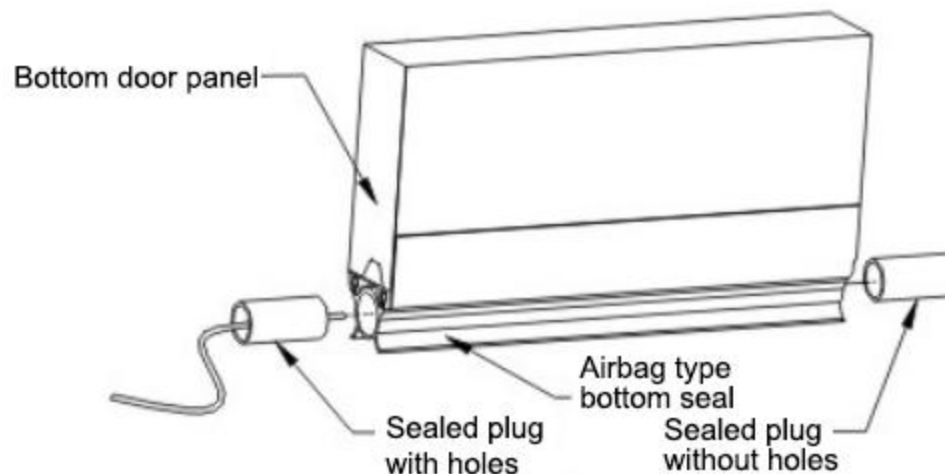

Figure 15-1
15.1 Insert the sealing plug with holes and the sealing plug without holes into the holes at both ends of the bottom air bag type seal. Note that the sealing plug with holes should be installed on the side where the controller is installed; the sealing plugs at both ends should not exceed the end of the door panel, and the error should be <3mm (Figure 15-1)
15.2 Install the pressure wave switch and the airbag bracket on the side of the controller under the adjustable hinge at the end of the bottom door panel with self-tapping screws) (Figure 15-1)
15.3 Cut the PVC hose to a suitable length and connect it to the pressure radio switch, fix one end of the spiral cable on the airbag bracket with a grommet, and then connect it to the pressure radio switch; (Figure 15-1)